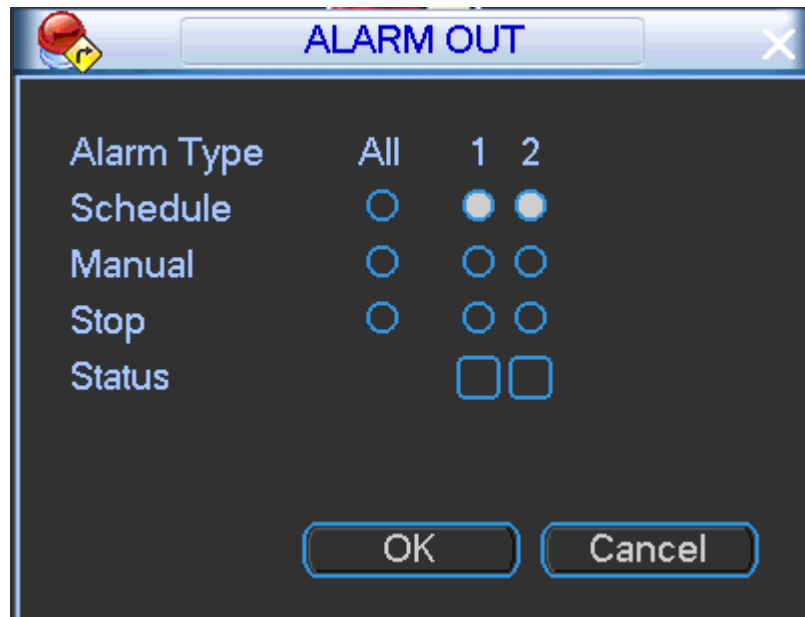

Figure 4-49
Step 1 From main menu->Setting->Event->Alarm output, enter alarm output interface. See Figure 4-49.